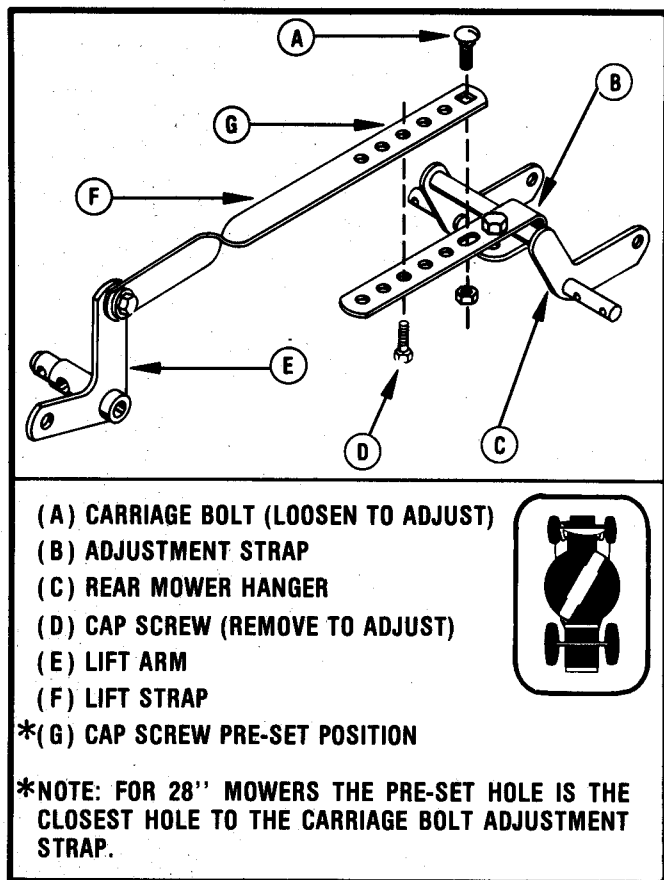

FIGURE 1-17
STEP 3 — ADJUSTMENT STRAP — FIGURE 1-17